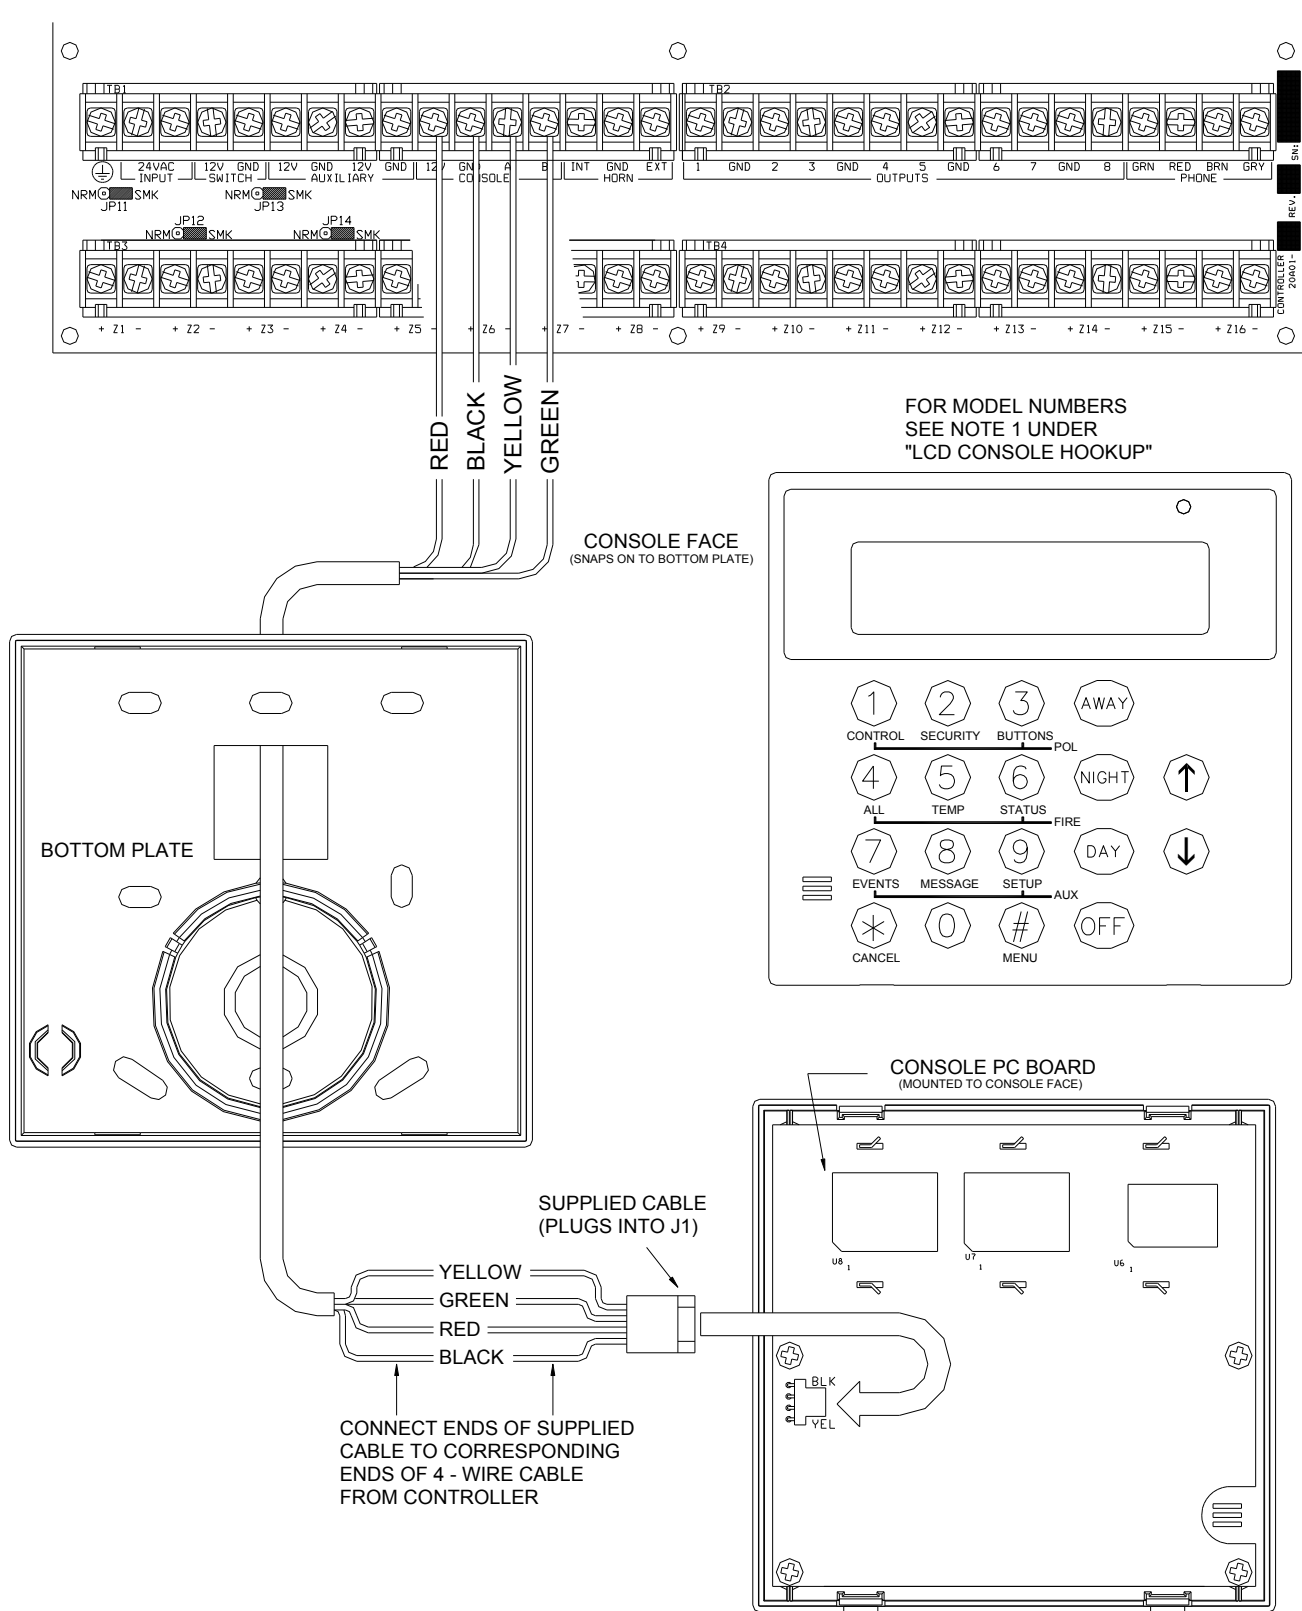

FIGURE 7 - CONSOLE CONNECTIONS
5. Refer to **FIGURE 7 (CONSOLE CONNECTIONS)** for this configuration.